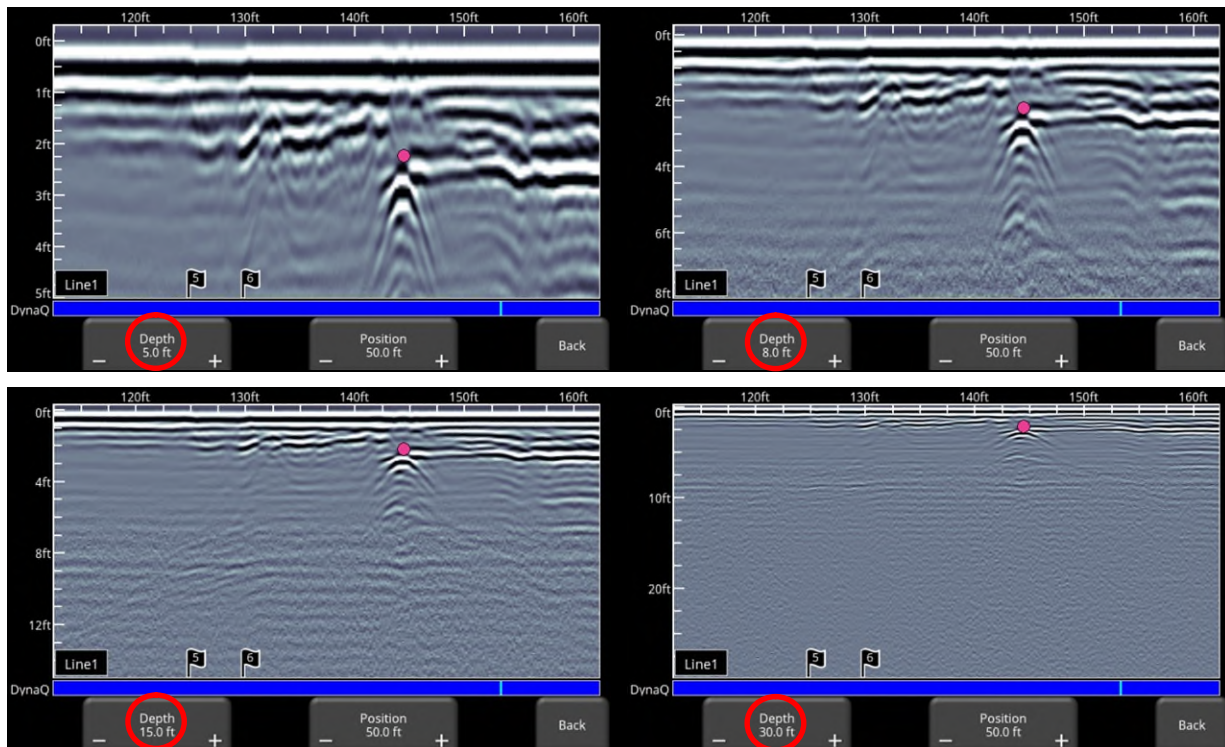

Figure 6-12: Varying displayed depth
- **Depth** – Pressing **+** and **-** under the **Depth** button allows you to change the display depth of the data. This is commonly referred to as the depth window. The pre-set values range from 1m to 8m (3' to 25'), see Figure 6-12